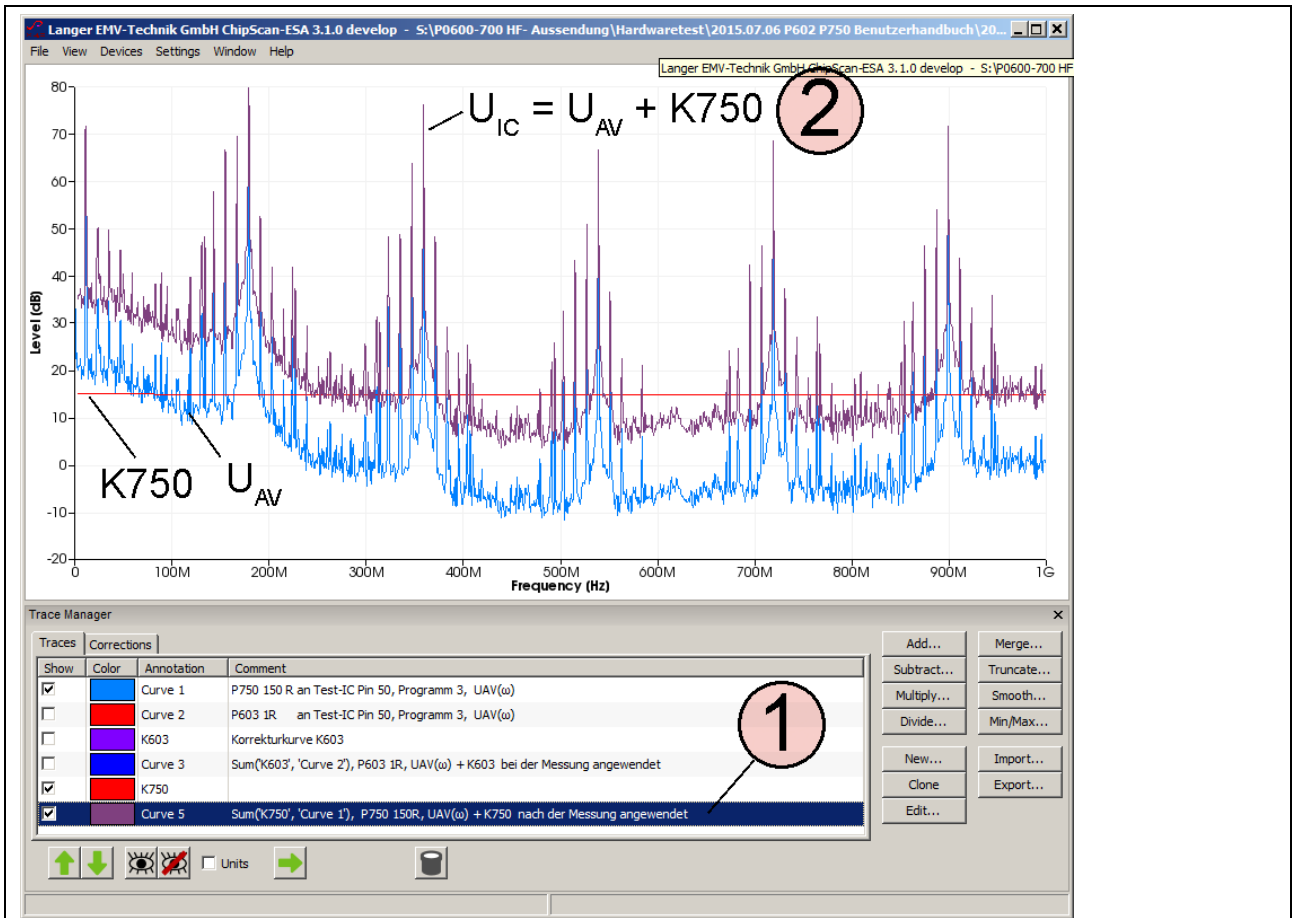

Figure 33: Correction after the measurement; result of the addition $U_{IC} = U_{AV} + K750$
The calculation creates the entry ① **Figure 33** at the bottom of the "Traces" list and is displayed as "Curve 5" ② **Figure 33**.